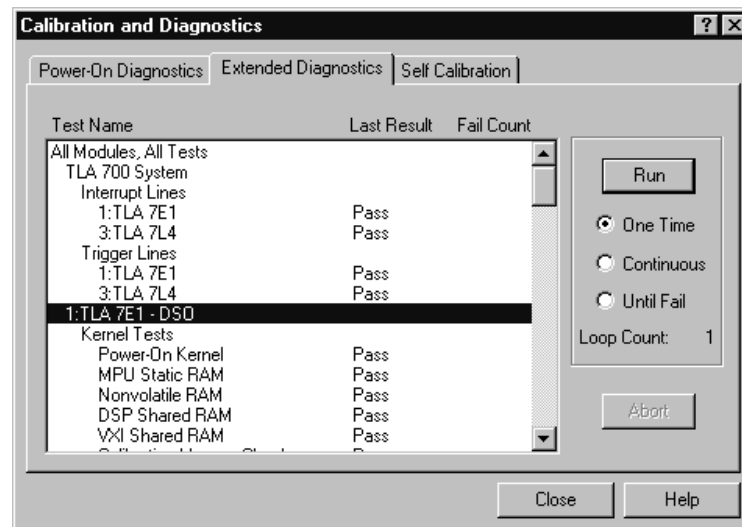

Figure 8–1: Calibration and Diagnostics property sheet
3. Select the top-level test for the module; refer to Figure 8–1.